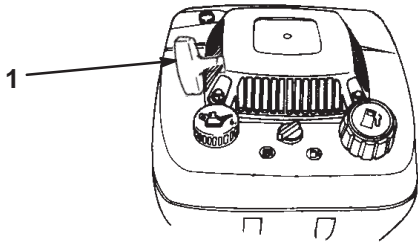

Figure 9
5. Pull the starter handle (Fig. 9) lightly until until you feel resistance, then pull it sharply. Allow the rope to return slowly.